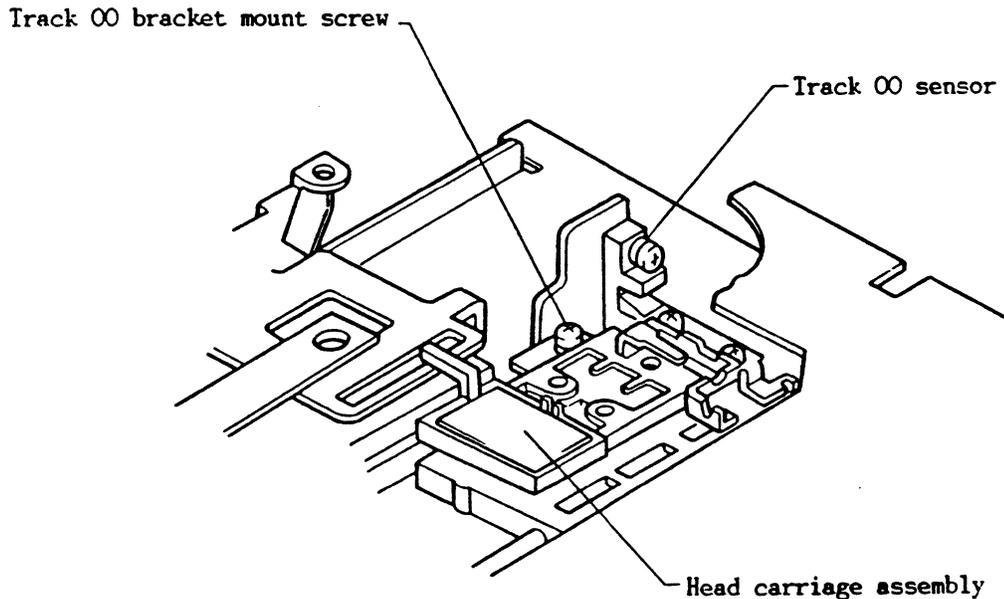

Fig. 418 Track 00 Sensor Adjustment
- (i) Shift the head to track 02, loosen the track 00 sensor mounting screw (refer to Fig.418), move the sensor backward and forward, fine adjust to near the intermediate point where the TP9 voltage changes from approximately 0.5V to 3.0V, and then tighten the mounting screw.
- (j) Check items (3)~(5).
- (m) Adjust the track 00 stopper as described in item 4-4-12.